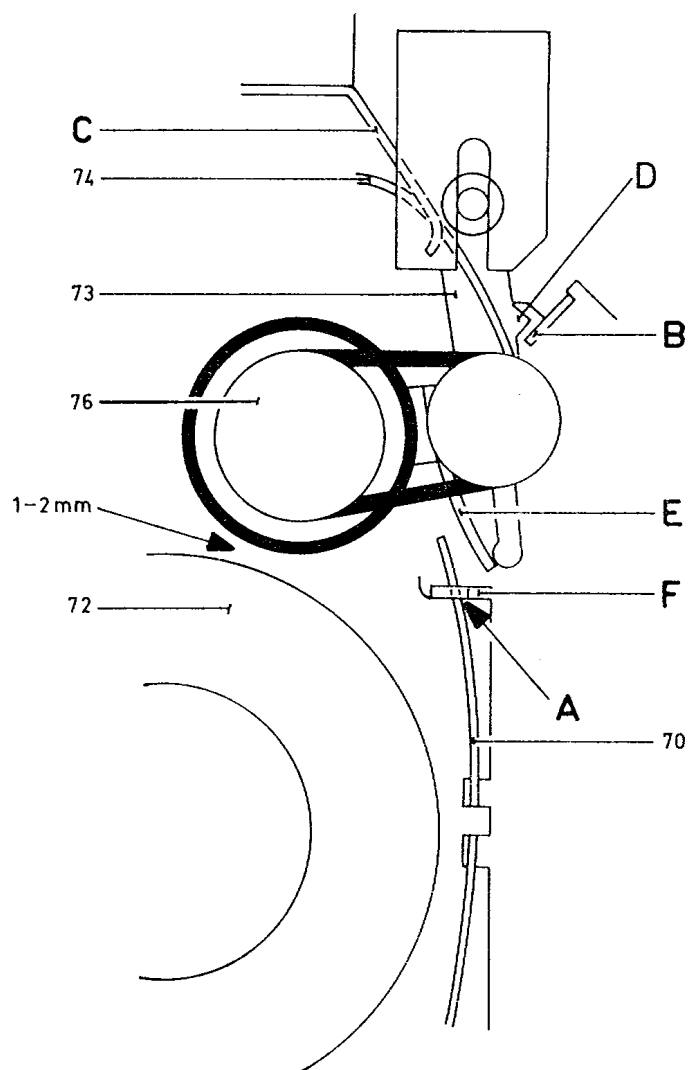

Fig. 8
**(e) Idler wheel bracket assembly 73 (see Fig. 8)**